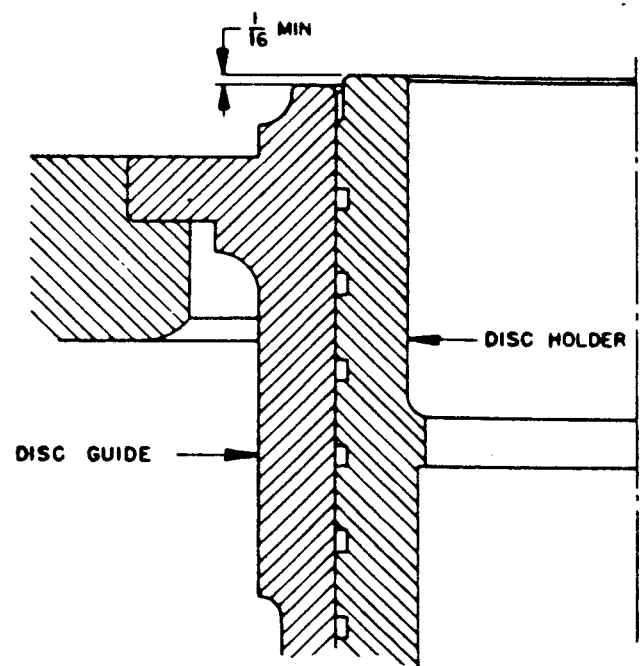

Figure 8 — Height of Holder Above Guide
- H. To check ring laps for flatness, wipe all compound off the lapping plate and ring lap. Then use a figure 8 motion of the ring lap on the lapping plate. If the lap is flat there will be no shadow; if there is a shadow, coat the lapping plate with compound and lap the ring lap with a figure 8 motion covering the lapping plate to remove the shadow.
Referring to Fig. 8 the top of the disc guide should be kept to a distance of at least $\frac{1}{16}$ " below the top of the disc holder to facilitate freeing the disc holder in case a deposit of dirt forms in the pocket between the two parts. This dimension is obtained by machining the top of the disc guide.